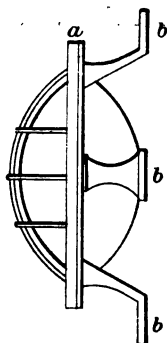

Fig. 73.—Bulkhead Oyster Fitting, guarded.
*Oyster Fitting.*—There are cases, however, when the bulkheads are intended to be water-tight, and cannot be pierced. These are met by a very compact form of lantern, called the oyster fitting, which is shown in Fig. 73.